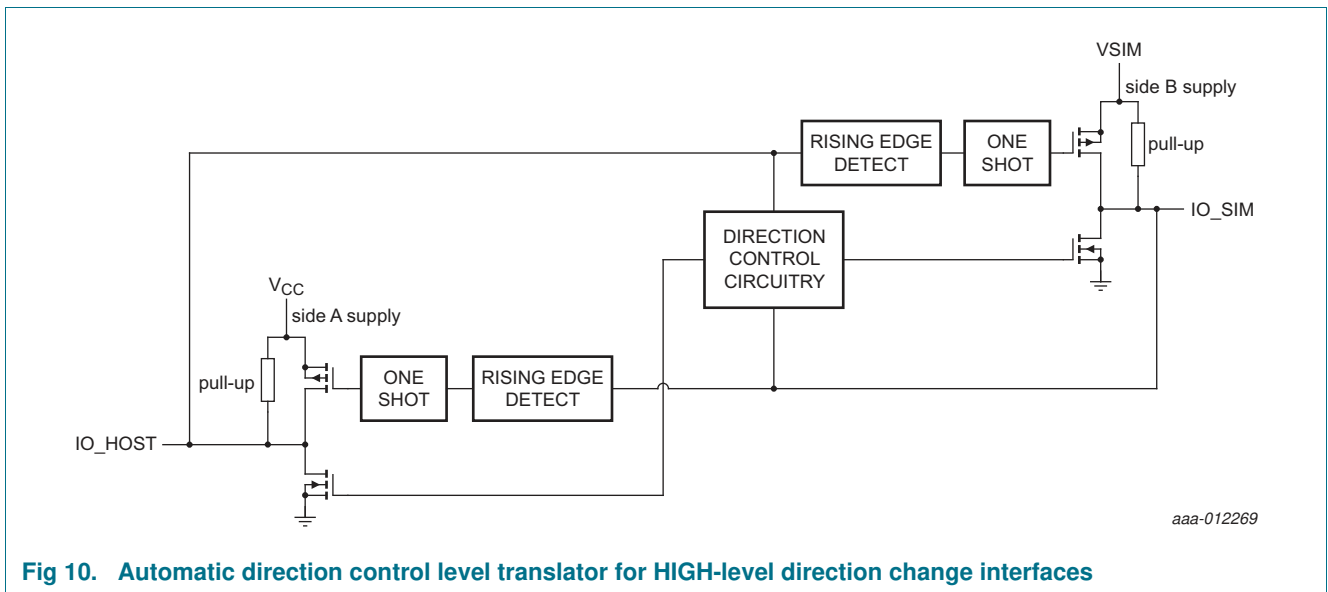

Fig 10. Automatic direction control level translator for HIGH-level direction change interfaces
- [3] See Figure 10 for details.
The architecture of the NVT4556 I/O channel is shown in Figure 10. The device does not require an extra input signal to control the direction of data flow from host to SIM or from SIM to host. As a change of driving direction is possible only when both sides are in HIGH state, the control logic is recognizing the first falling edge granting it control about the other signal side. During a rising edge signal, the non-driving output is driven by a one-shot circuit to accelerate the rising edge. In case of a communication error or some other unforeseen incident that would drive both connected sides to be drivers at the same time, the internal logic automatically prevents stuck-at situation, so both I/Os return to HIGH level once released from being driven LOW.